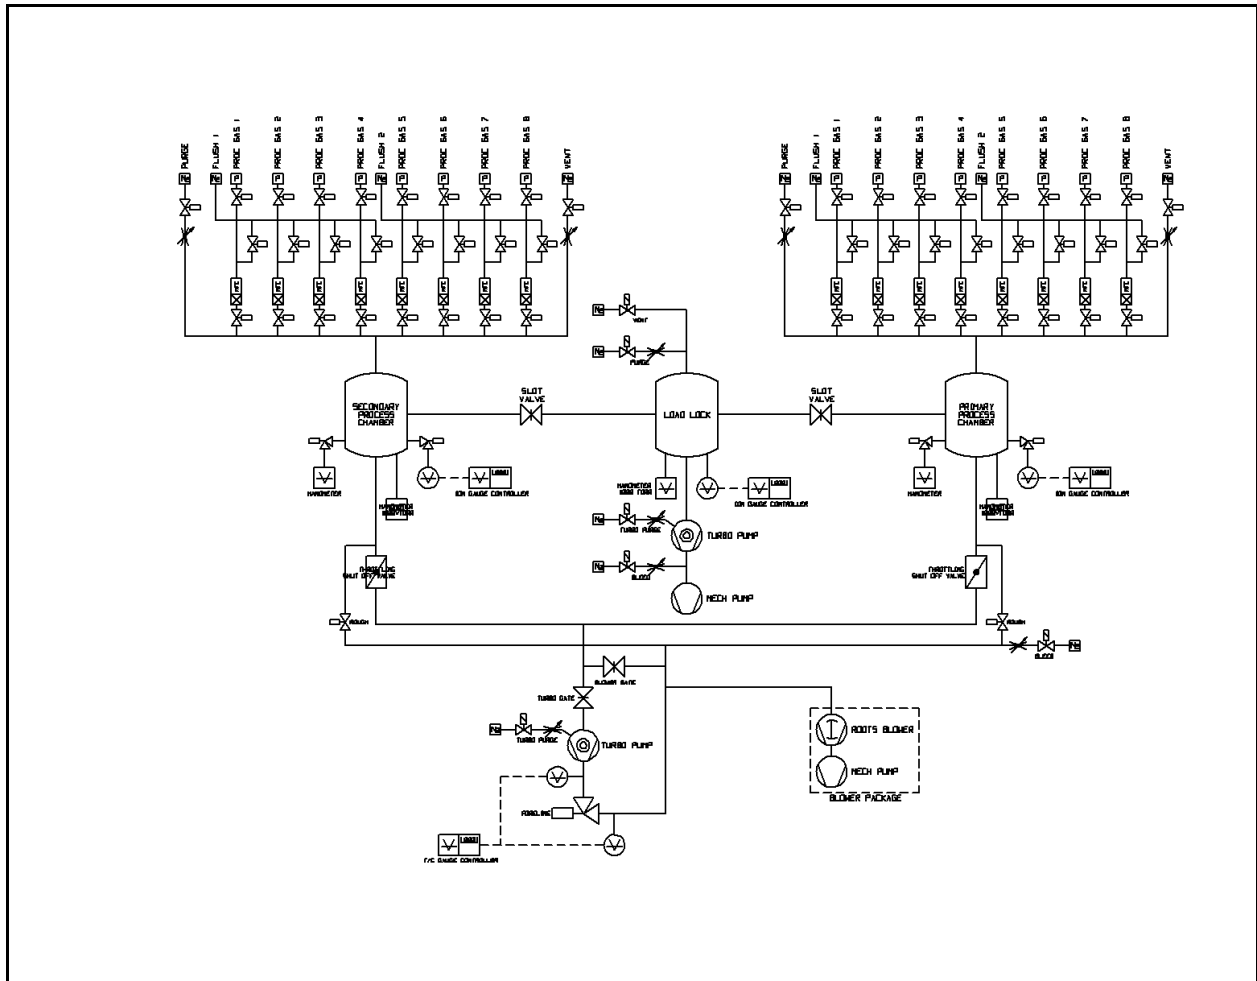

Figure 2-9. Sample Vacuum Schematic (Standard)
1. Refer to the specific Vacuum Schematic in the Service Document (similar to Figure 2-9) and connect an N2 gas line to the N2 connector on the Fluid Input Panel (Figure 2-8).